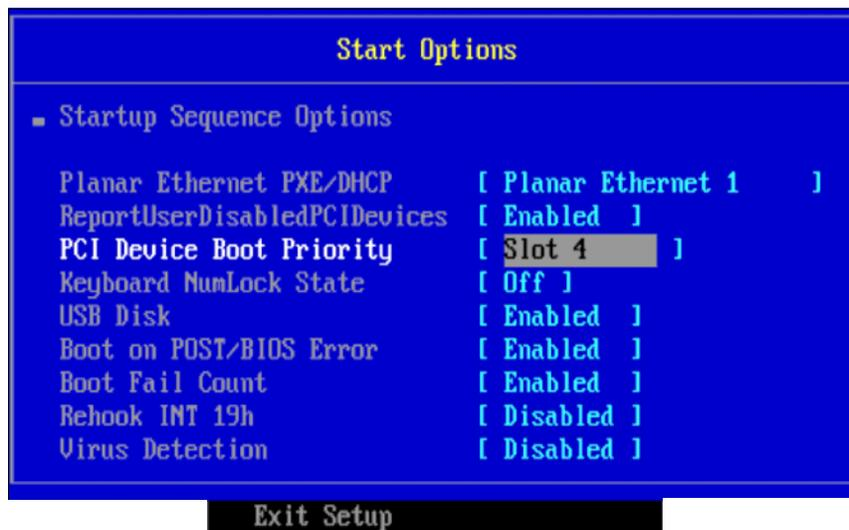

Figure 10-35 Selecting PCI Device Boot Priority in Start Options screen
4. Scroll to the PCI Device Boot Priority option and select the slot in which the HBA is installed, as shown in Figure 10-35.